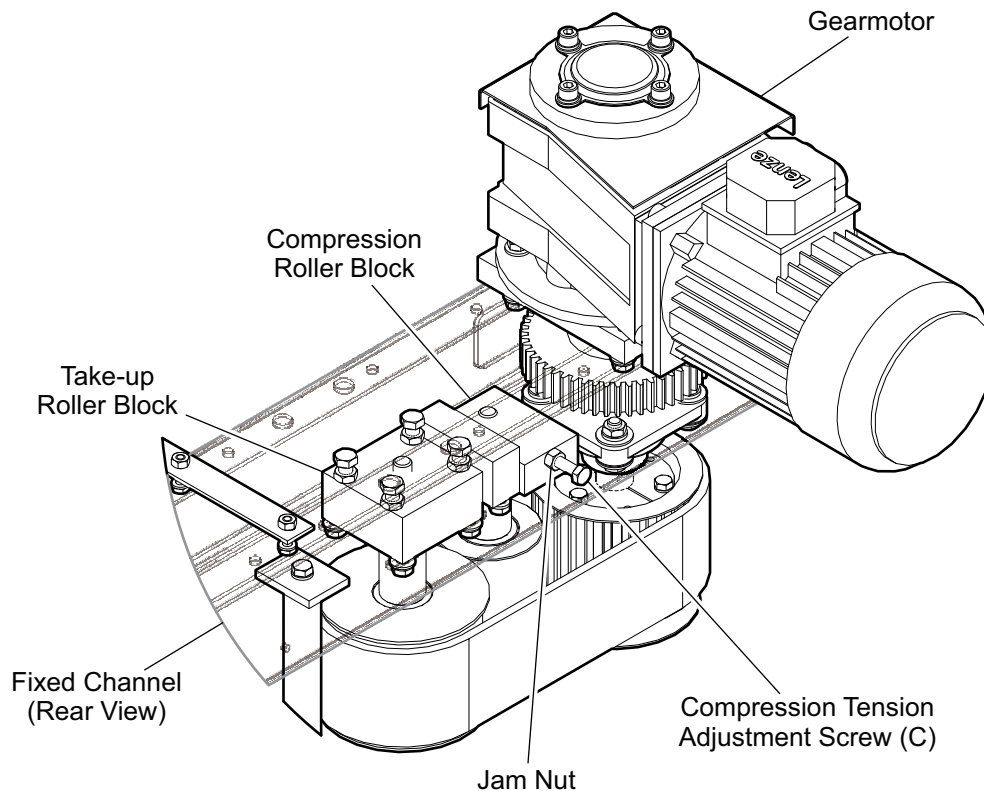
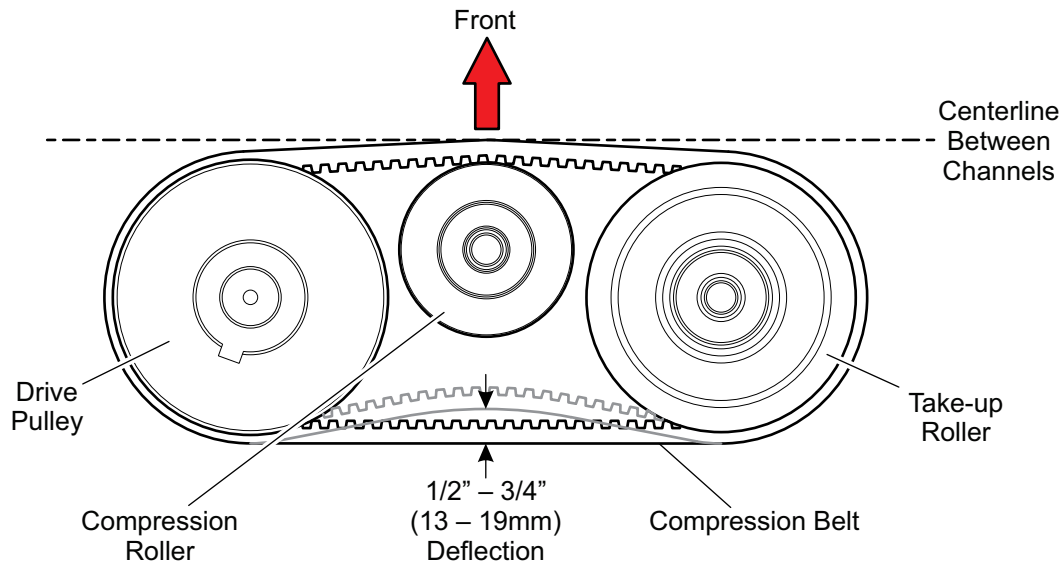

Figure 5-7: Compression Tension Adjustment Screw & Jam Nut
Figure 5-8: Correct Compression Roller Position
4. The rear (fixed channel) compression roller's position is controlled by its block, inside the channel. Between the block and the back wall of the fixed channel is a hex-head bolt (C) locked into position by a jam nut (see Figure 5-7:). By unlocking the jam nut and then turning this bolt so that it rotates into the block, the roller can be moved away from the centerline between the channels. As the bolt is rotated out of the block, the block is pushed towards the centerline between the channels. Once the rear compression belt is in position (see Figure 5-8:), lock the bolt into place with the jam nut.
5. Secure the compression assembly in place by tightening the $\frac{1}{2}$ inch socket cap screw (shaft). Double check the alignment of the compression belt after the screw is tightened (see Figure 5-8: Correct Compression Roller Position).
6. Push in on the belt between the take-up roller and the drive sprocket. If the tension in the belt is correct, the belt should deflect about $\frac{1}{2}$ to $\frac{3}{4}$ inch (13 - 19mm) (see Figure 5-8: Correct Compression Roller Position).
6. Push in on the belt between the take-up roller and the drive sprocket. If the tension in the belt is correct, the belt should deflect about ½ to ¾ inch (13 - 19mm) (Figure 5-8: Correct Compression Roller Position). Install the swing channel shrouding, if it was removed.